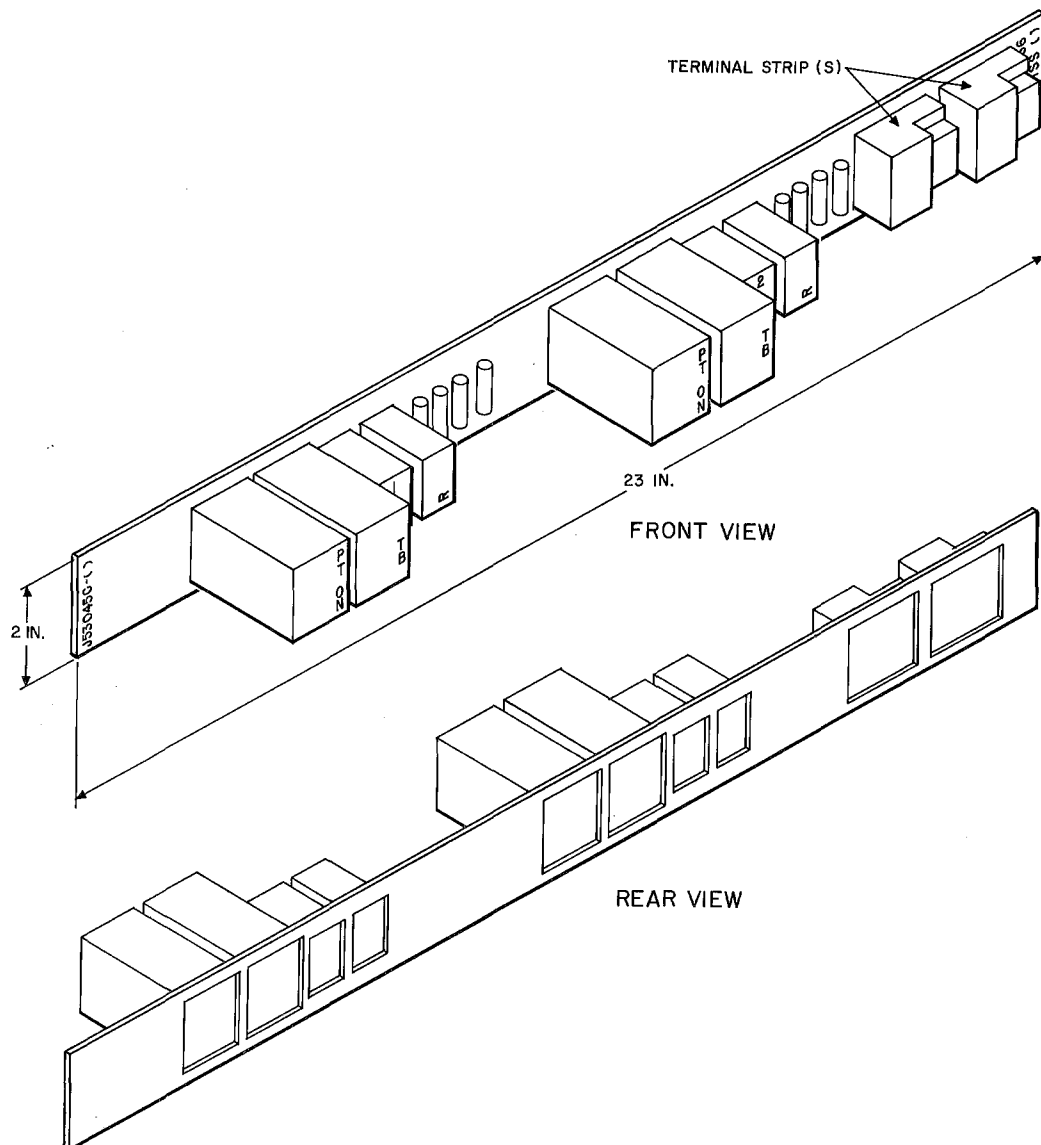

Fig. 3—Station Unit
2.06 The station relay circuit provides talking battery and ground for a 4-wire type telephone set and converts loop dialing to 1- and 2-lead dialing when SS-1-type signaling option is wired. It also provides for station set push-to-talk operation. The station unit (Fig. 3) contains two station relay circuits.